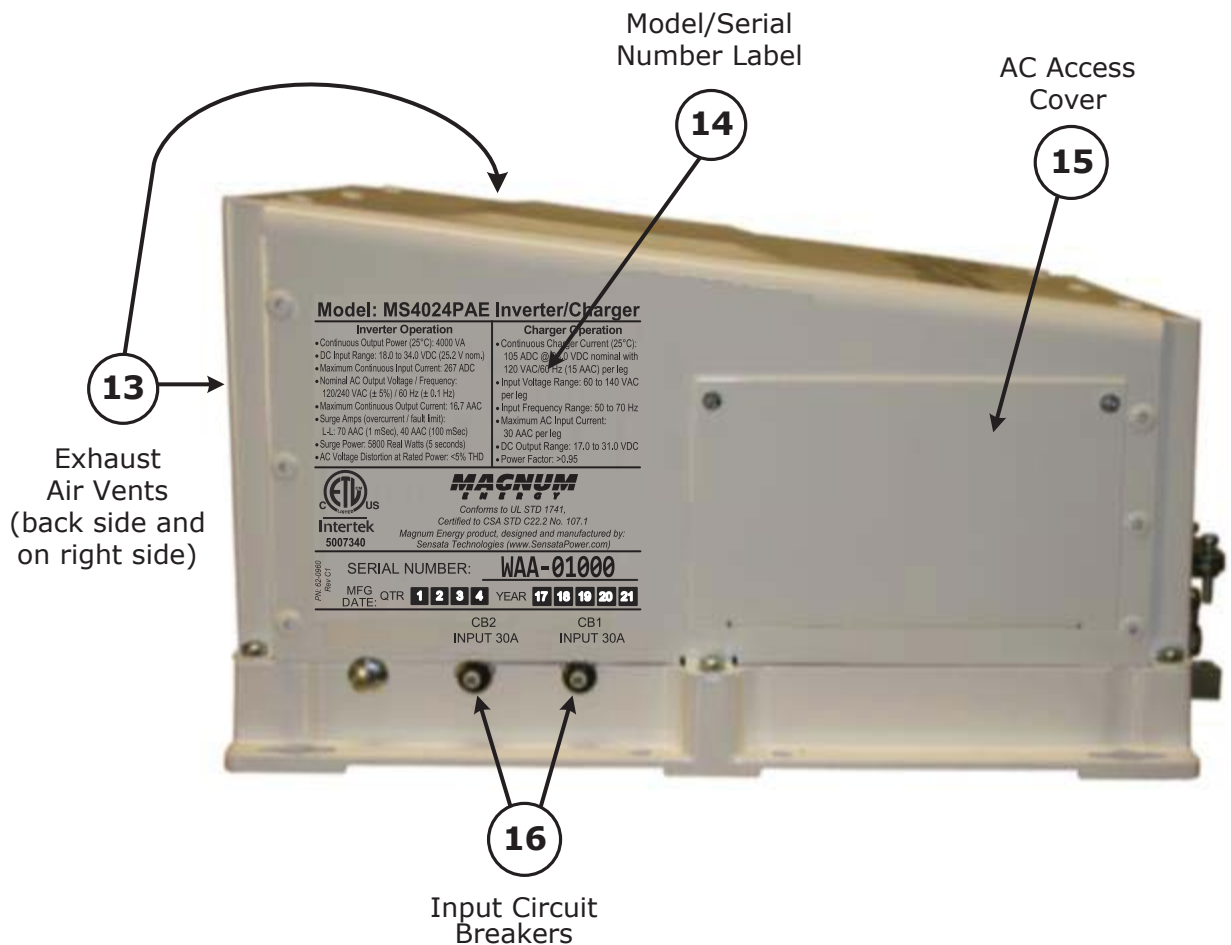

Figure 1-3, Left Side Features
**Ventilation** – In order for the inverter to provide full output power and avoid over-temperature fault conditions, do not cover or block the inverter’s ventilation openings or install this inverter in an area with limited airflow. The inverter uses two internal fans to provide forced air cooling, these fans pull in air through the intake vents (Figure 1-2, Item 9) and blow out air through the exhaust vents (Figure 1-3, Item 13). Allow at the minimum an airspace clearance of 6” (15.2 cm) at the intake and exhaust vents, and 3” (7.6 cm) everywhere else to provide adequate ventilation. If the inverter is installed in an enclosure, a fresh air intake opening must be provided directly to the front side (intake vents) of the inverter and an exhaust opening on the back side (exhaust vents) of the inverter. This will allow cool air from the outside to flow into the inverter and heated air to exit from the inverter and out of the enclosure. When mounted in an enclosed compartment, airflow must be at least 100 cfm in order to maintain no more than a 68°F (20°C) rise in compartment temperature.